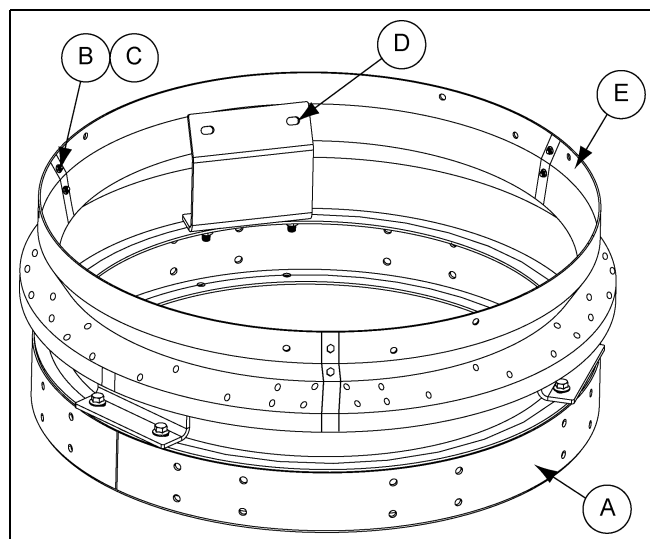

Figure 4H Attaching the Center Collar to Peak Ring Weldment
3. Place the three (3) center collar (E) pieces over the Z-collar support clips (D) and secure the center collar pieces (E) together using flange bolts (B) and flange nuts (C) as shown in Figure 4H.